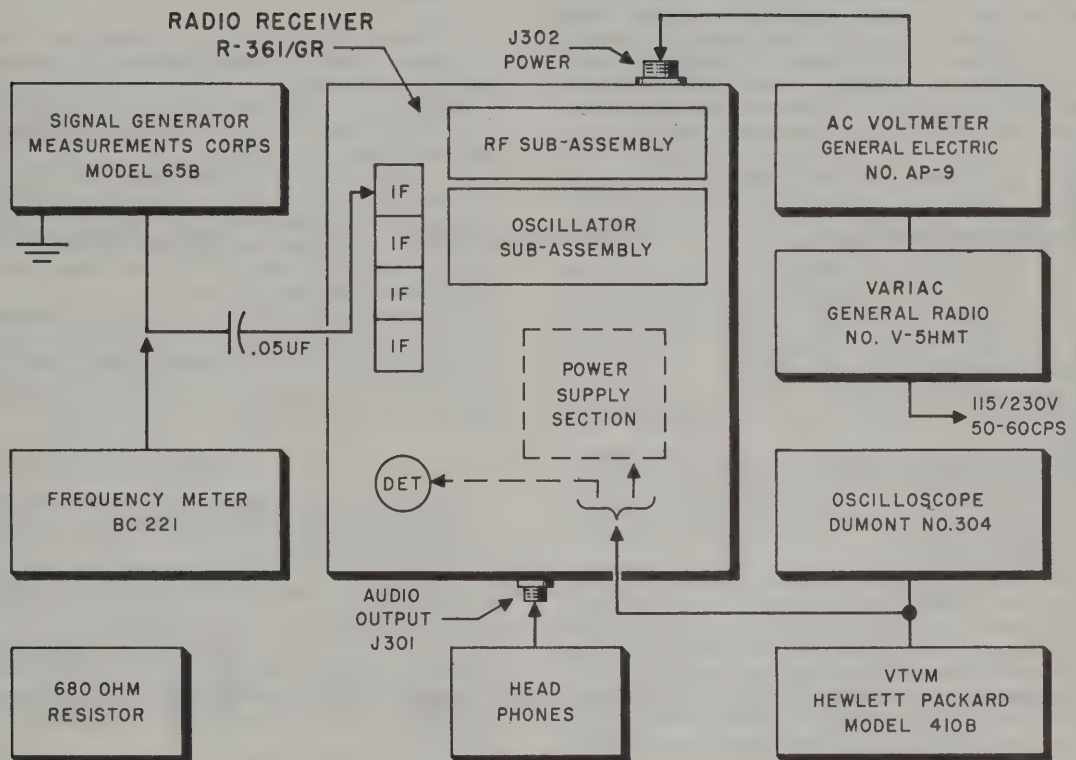

Figure 8-3. Set-up For Main Chassis Test
8-9. MAIN CHASSIS ALIGNMENT AND TEST FOR RADIO RECEIVER R-361/GR. (See figure 8-3.)
- k. Connect the variac and line voltmeter as shown in figure 8-3. With the variac switch in the "OFF" position, insert the power plug into the "POWER" receptacle, at the rear of the chassis.